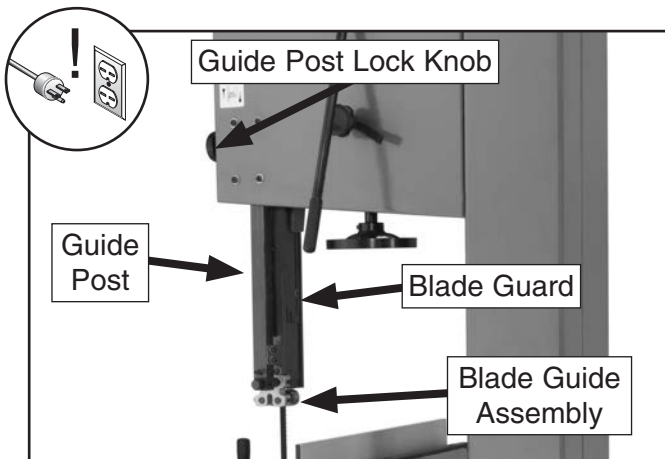

Figure 44. Guide post controls.
The motorized guide post (see **Figure 44**) moves the blade guide assembly up or down. To cut accurately and safely, the bottom of the blade guide assembly must be no more than 1" above the workpiece during cutting operations—this positioning provides the greatest blade support and minimizes the length of moving blade that is exposed to the operator.
3. Loosen guide post lock knob shown in **Figure 44**.